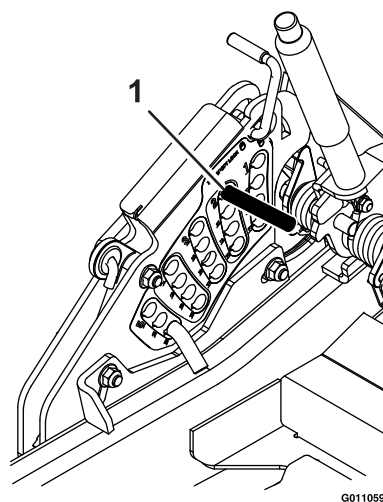

Figure 33
- D. Install a 1/2 x 6 inch (approx.) rod or bolt through the 2 inch height of cut hole (see Figure 33).